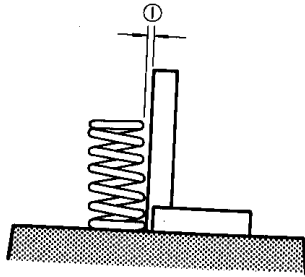

Fig. 3-74
Use a square and surface plate to check each spring for squareness in terms of the clearance ①, Fig. 3-74, between the end of valve spring and the square. Valve springs found to exhibit a larger clearance than the limit must be replaced.